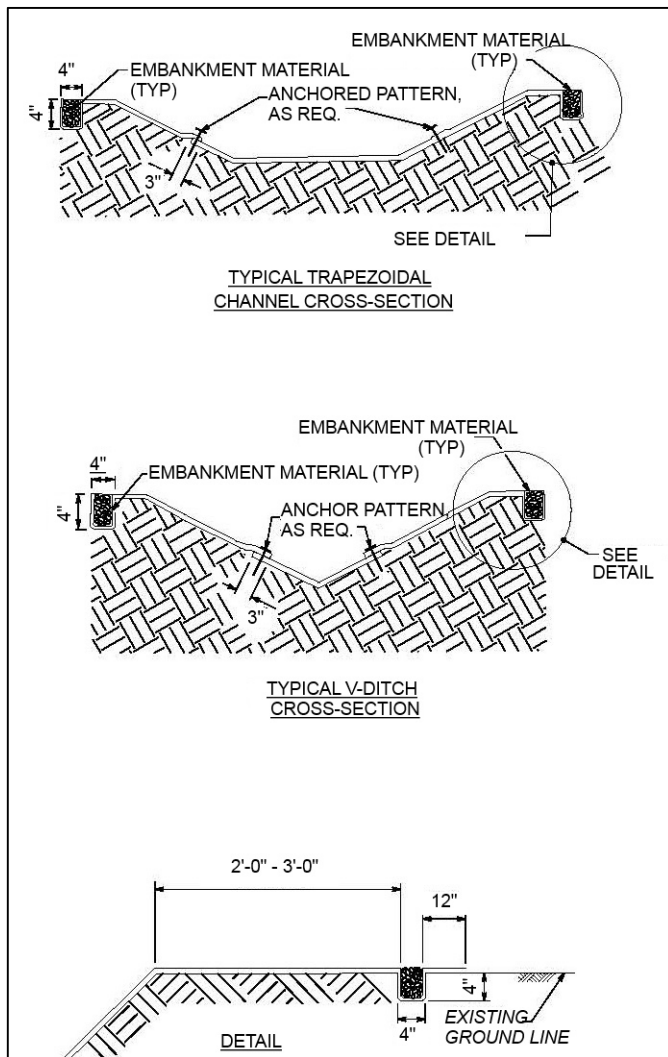

Figure 40: Channel Lining Detail
- Establish and maintain continuous contact between the rolled erosion control products and soil surface as shown in **Figure 40**.
- Construct rock lining as shown in **Figures 40, 41 and 42.**